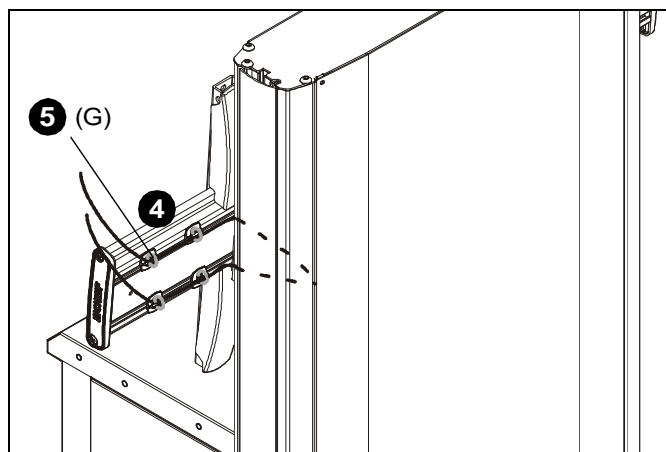

Figure 12
4. Route cables along FCA clips to be used for cable management. (See Figure 12)
5. Use cable ties (G) to secure cables to FCA clips. (See Figure 12)